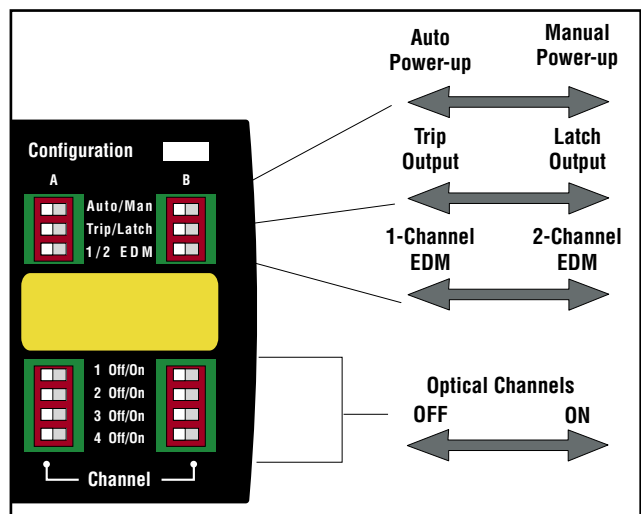

Figure 4-2. PICO-GUARD controller configuration switches
Auto/Manual Power-Up is selected on two DIP switches as shown in Figure 4-2. If the switches are set for Auto Power-Up, the controller will automatically perform a system reset on power-up, after the internal system tests are completed. If the switches are set for Manual Power-Up, the controller will require a system reset at power-up. The controller indicates it is ready for a system reset after power-up by double-flashing the System Reset indicator (see Figure 4-3).
Trip or Latch Output is selected on two DIP switches as shown in Figure 4-2. If the switches are set for Trip Output (T), the controller will turn the OSSD outputs ON automatically when all active (ON) optical channels are closed (light received). If the switches are set for Latch Output (L), the controller will require a system reset when all active (ON) optical channels are closed (light received). The controller indicates it is ready for a system reset to clear the latch condition by single-flashing the System Reset indicator (see Figure 4-3).
EDM options are selected via two DIP switches as shown in Figure 4-2. For 1-Channel Monitoring, set both EDM DIP switches to 1. For 2-Channel Monitoring or No Monitoring, set both EDM DIP switches to 2. See Section 3.9.3 for more information.
Optical Channels are enabled via four pairs of DIP switches as shown in Figure 4-2. Each optical channel is enabled by setting its pair of switches to ON, or disabled by setting them to OFF. At least one optical channel must be ON at all times or a fault condition will occur.